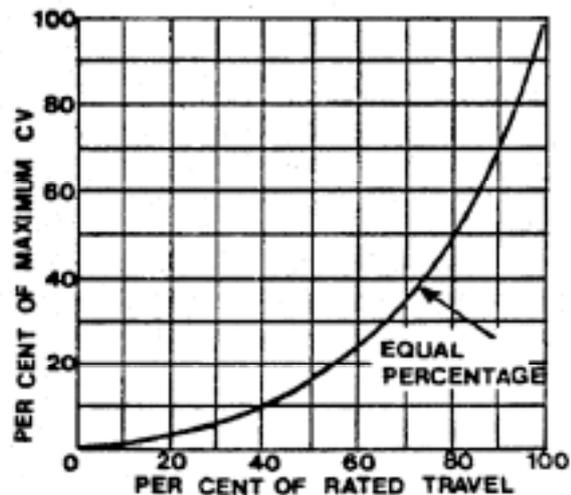

Figure 12(b): Flow Characteristic of an Equal Percentage Valve.
- For example, (refer to Figure 12(b)) if the valve plug position increases from 50% to 60% (an increase of 10%) the Cv increases from 17.5% to 25% (a 43% increase over 17.5%).
- Equal percentage valves are used in situations where there is a highly varying pressure drop (DP) across the valve.